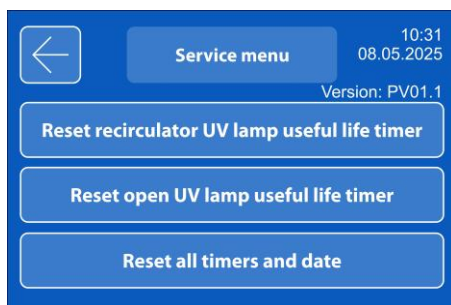

Figure 11. Service menu
- **Service menu** button, accessed by pressing and holding for 8 seconds. In this submenu (figure 11), there are buttons for resetting UV lamp life timers, also activated by pressing and holding for 8 seconds. These actions reset statistics timers and relevant alarms.